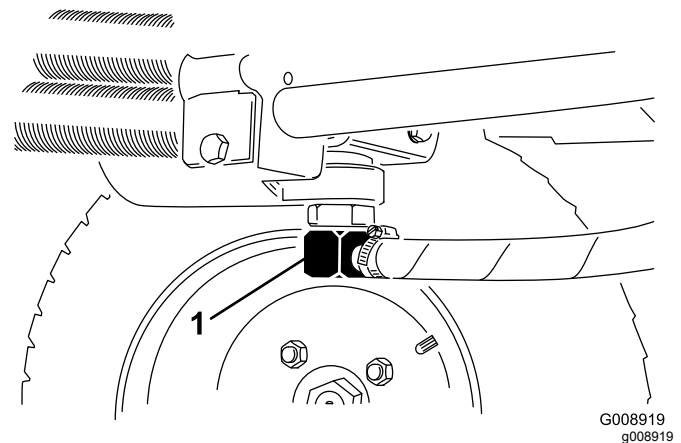
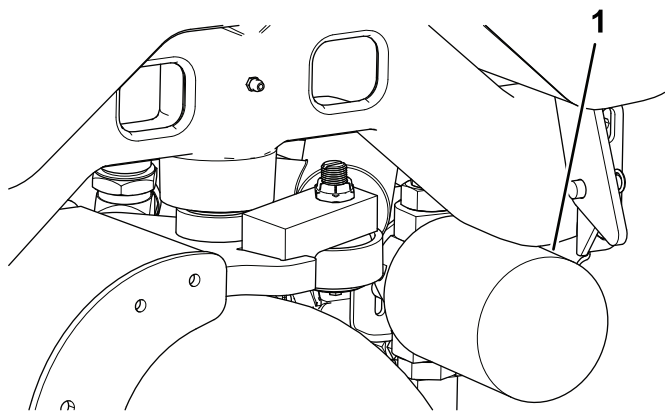

Figure 73
Figure 74
2. Disconnect the hydraulic line (Figure 73) or remove the hydraulic filter (Figure 74) and let the hydraulic fluid flow into a drain pan.
4. Place a drain pan under the filter (Figure 74) and remove the filter.